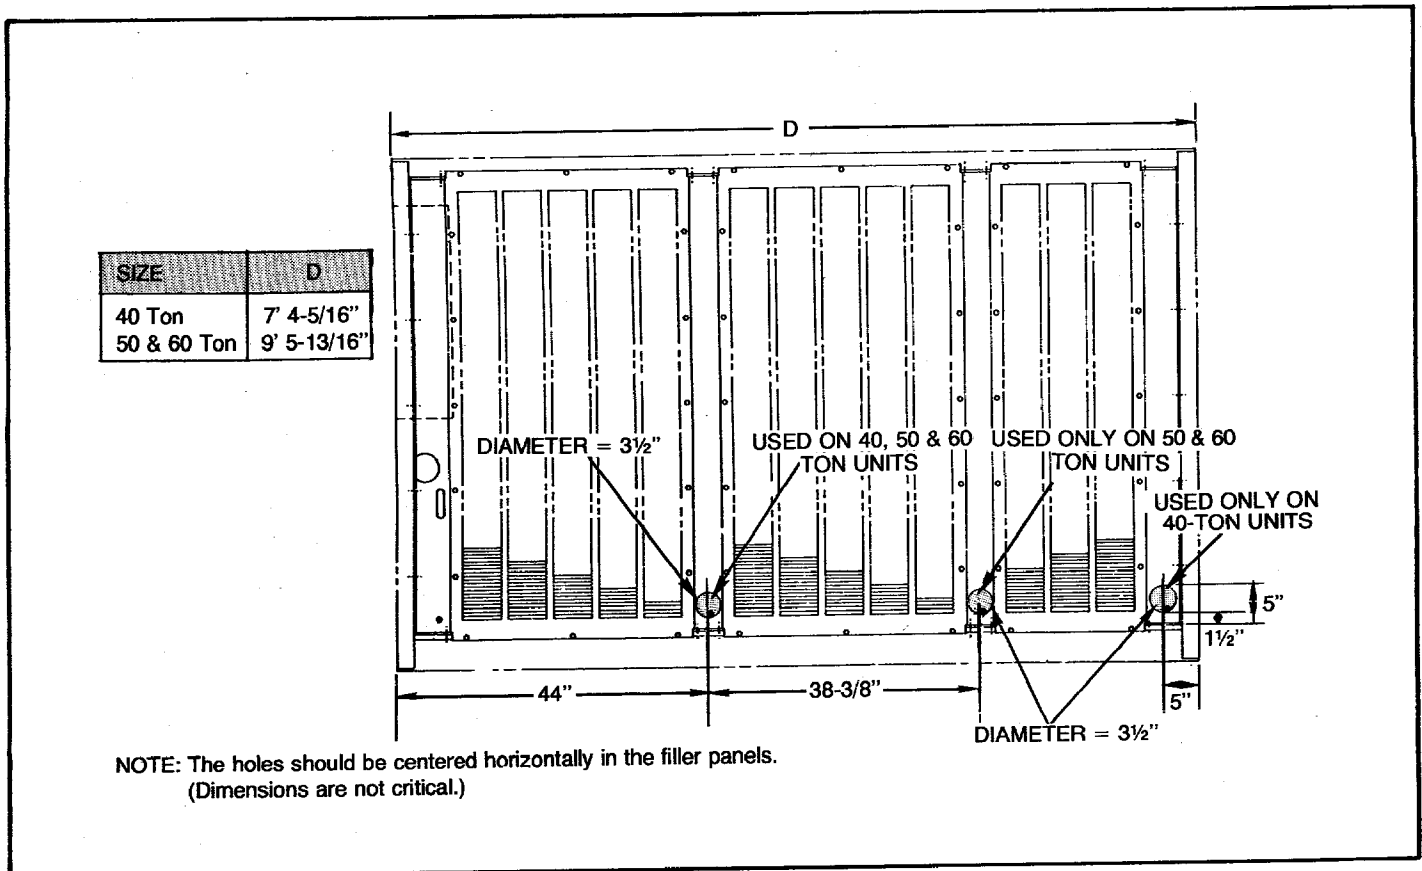

FIGURE 22 - Suction Line Hole Locations: 40 Through 60-Ton Units Without Isolators
5. Cut holes in the filler and condenser section end panels as illustrated in Figures 22 and 23.
12. Cut holes in the compressor section filler panels as shown in Figures 22 and 23. The hole locations will vary with unit tonnage.